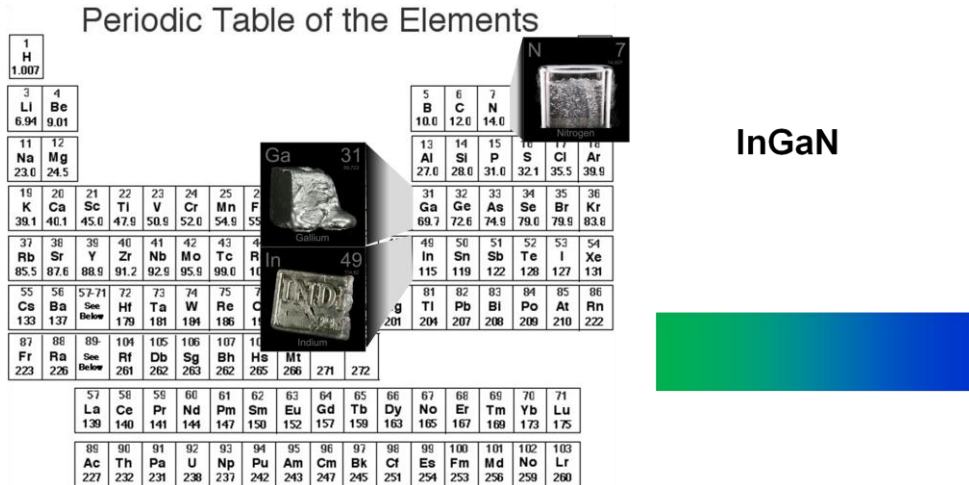

Figure 4. Wavelength or color is determined by the elements used.
LED chips are nearly **monochromatic** where the color emitted is dependent upon the material, which is wavelength specific; thus, we see essentially one color. The terms AlInGaP and InGaN refer to the materials or **elements** used to create the LED chip. For longer wavelength red, orange or yellow light, combinations of Aluminum (Al), Indium (In), Gallium (Ga) and Phosphorous (P) are typically chosen. Philips Lumileds also creates amber with a blue chip and phosphor plates; AlInGaP is not the only way to create amber. For shorter wavelength green or blue light, combinations of Indium (In), Gallium (Ga) and Nitrogen (N) are chosen. See *Figure 4*.